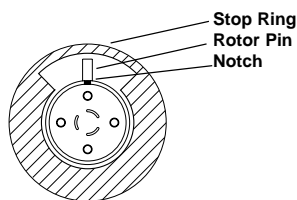

Fig. 4. Correct orientation of rotor seal (grooves face the stator).
To reassemble the valve, refer to Figures 4 and 5 and proceed as follows:
- Line up the new rotor seal as shown in Figure 4. The rotor seal grooves face the stator.